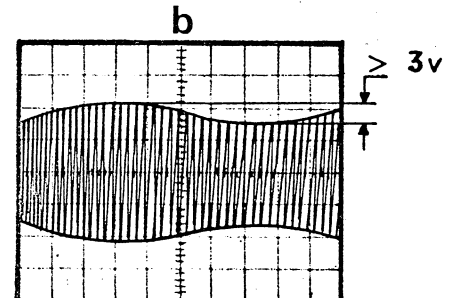

FIG. 8-6
- Perform the local test without print and check the amplitude and the linearity of the MISTO signal (fig. 8.6)
- Should the difference between the maximum and the minimum amplitude of the MISTO signal be ≥ 6 volts, replace the timing toothed disk (fig. 8.6 b)